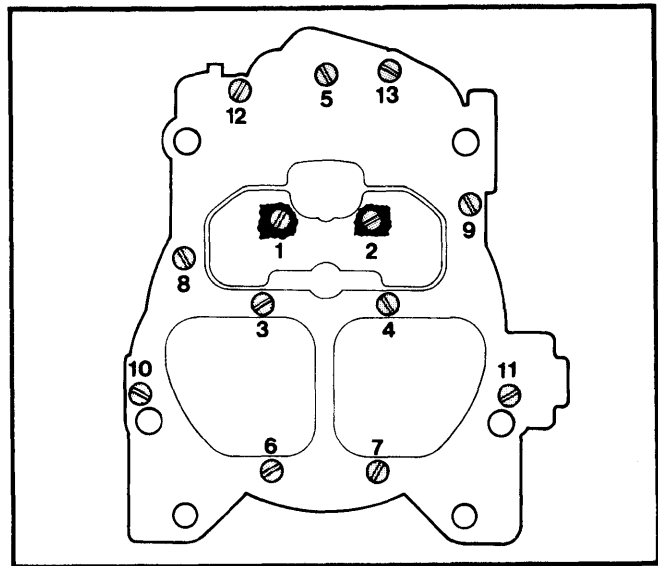

Fig. 16 Air Horn Screw Tightening Sequence
- 5) When installing air horn screws, note that 2 long screws are installed with lockwashers. Countersunk screws (2) are installed right next to venturi area. Install secondary air baffle under screws No. 2 and 4. Tighten air horn screws evenly and in sequence. See Fig. 16.